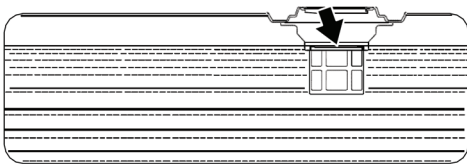

Figure 7 - Maximum Gasoline Fill Level
6. Slowly add petrol into the fuel tank. Be very careful not to overfill the tank. The petrol level should NOT be higher than the filler neck (see Figure 7).